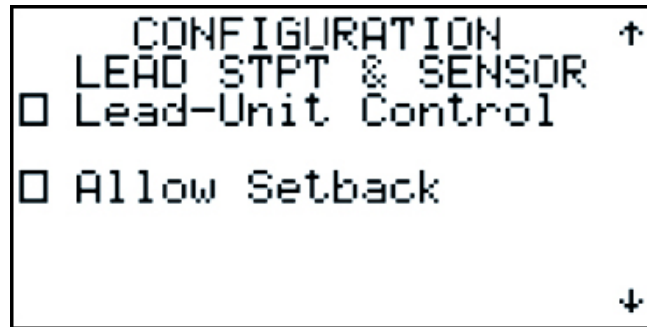

Figure 19
2.3.3.1.3 Configuration – Lead Setpoint & Sensor (Figure 19)
Pressing the **DOWN** key will now display the LEAD STPT & SENSOR screen (Figure 19). This screen allows the user to select where the unit will receive its zone sensor data and setpoints. If the units are sharing a zone sensor the Lead-Unit Control box should be checked. See the Network Config section 2.3.3.2 for setting up a lead-lag network. If communication fails between lead & lag units, a message at the bottom will state "Lead Unit MB FLT". An alarm will also occur notifying of Lead Sensor miscommunication, and the unit will default to the locally connected zone sensor (if equipped).